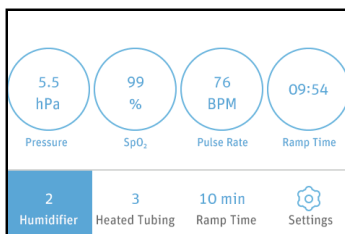

Fig. 14-3
(2) After the device is powered on, start the device, the screen of the device then displays the Main Interface shown in Fig. 14-3. The patient's blood oxygen saturation and pulse rate can be clearly seen during the course of treatment.